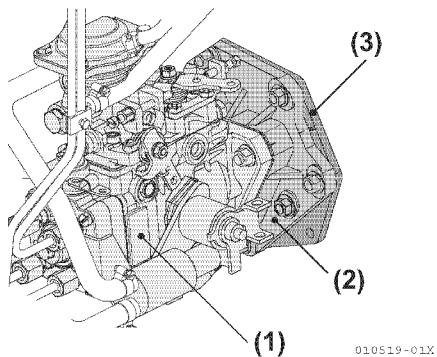

Figure 5-161
- Install the VE pump bracket and O-ring to the gear case while adjusting both mark-off lines of the bracket and gear case (Figure 5-161).